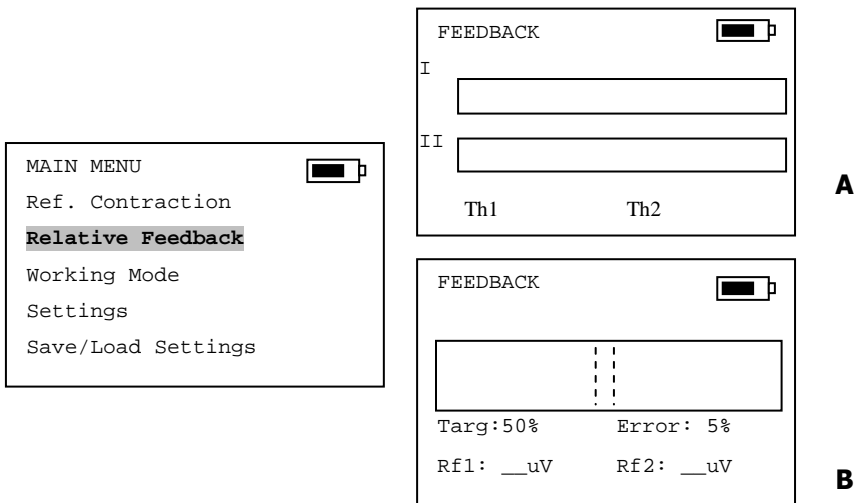

FIG. 7.2: Relative Feedback function page: Under Threshold (A), Maintain Target (B).
FIG. 7.2 to the right shows the two pages displayed depending on whether you select Relative Feedback Under Threshold (A) mode rather than the Maintain Target (B) mode.